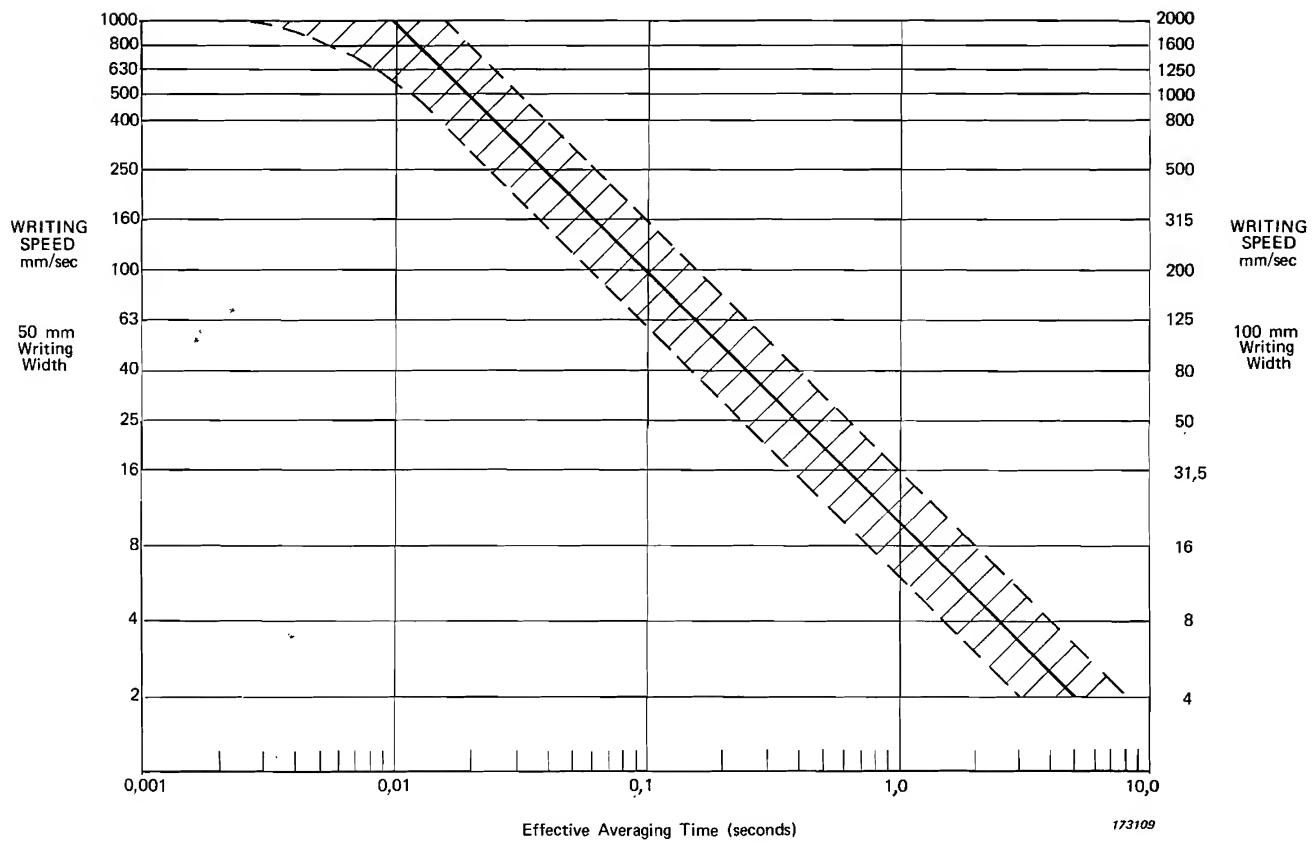

Fig. 6.2. Effective averaging times as a function of writing speed
With AC recording the AC output of the RECORDER socket of the 2606 is used. Rectification and part of the averaging of the signal fluctuations is then performed electronically by the Rectifier Circuit of the Level Recorder with the remaining signal averaging taking place in the Recorder's writing system. The most influential control which affects averaging is the WRITING SPEED selector, but is also to some extent influenced by the setting of the LOWER LIMITING FREQUENCY control. Empirical data suggests that the effective averaging times as a function of WRITING SPEED may be represented by a double logarithmic plot as shown in Fig.6.2. There is, however, some spread in the data owing to LOWER LIMITING FREQUENCY settings as well as signal characteristics (e.g. crest factor, bandwidth etc.), and this is also indicated in Fig.6.2. The left hand limit of this spread is a theoretical limit corresponding with zero pen movement. For normal settings of the 2305 and 2307 Level Recorders and pen movements of 12 to 16 mm peak to peak for 100 mm writing widths (6 to 8 mm for 50 mm writing width), most of the effective averaging times will be in the shaded area of Fig.6.2. Fig.6.2 may be used with all Range Potentiometers.
4. For AC recording averaging of small signal fluctuations (between 12 and 16 mm for 100 mm paper widths) is controlled by the WRITING SPEED selector of the 2305 or 2307 Level Recorder. To minimize ripple on the recording set the WRITING SPEED selector to 100 mm/s (large figures) for recording signals with components down to 10 Hz or to 31.5 mm/s for recording of signals with components down to 2 Hz. The effective averaging times obtained with these WRITING SPEED settings approximate the 100 ms averaging time of the "RMS Fast" METER FUNCTION mode of the 2606 and the 500 ms averaging time of the "RMS Slow" METER FUNCTION. The effective averaging times available using other settings of the WRITING SPEED CONTROL are given in Fig.6.2.